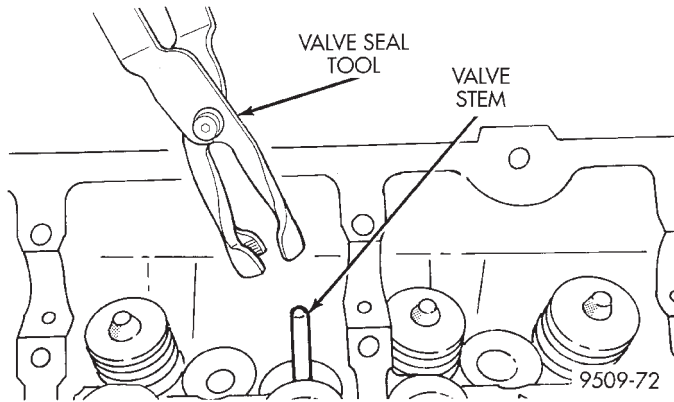

Fig. 93 Valve Stem Oil Seal Tool
(1) Coat valve stems with clean engine oil and insert in cylinder head.
(2) Install new valve stem seals on all valves using a valve stem seal tool (Fig. 93). The valve stem seals should be pushed firmly and squarely over valve guide.